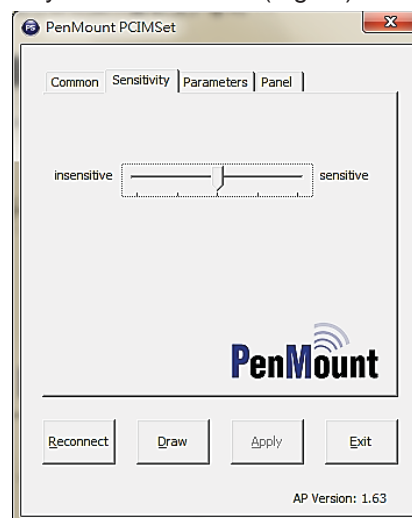

Fig.37
- Sensitivity: This tab allows the user to adjust the sensitivity of the controller. (Fig.37)